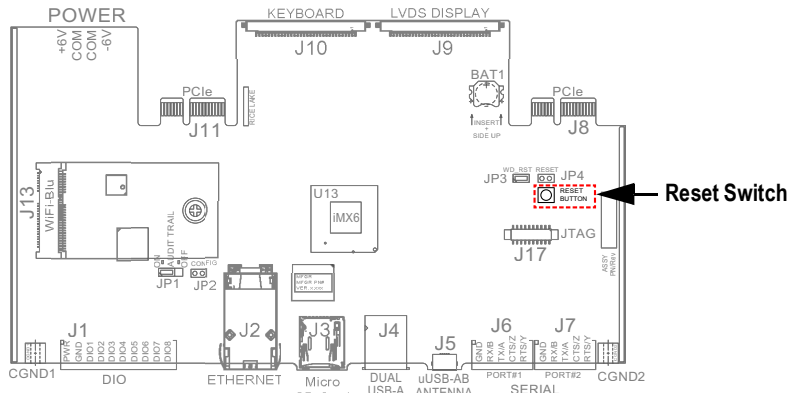
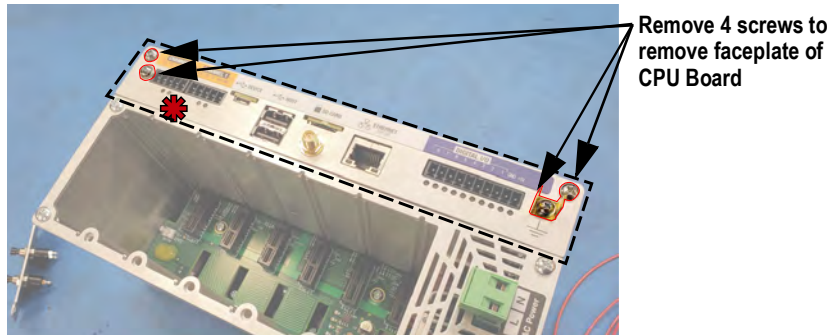
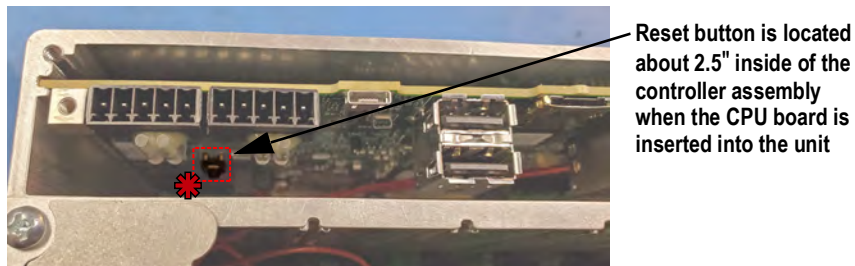

Figure 2. Location Reset Switch On CPU Board
Figure 3. Remove the Faceplate
Figure 4. Access to Reset Switch
3. Press the reset switch (Figure 4 on page 2) while the splash screen displays the fourth dot in the opening sequence.
The reset switch is located on the CPU board (Figure 2). The CPU board must be inserted into the controller assembly to receive power from the indicator. The reset switch is accessible by removing the faceplate from the CPU board (Figure 3). Reach into the controller assembly with a non-conductive tool to press the reset switch (Figure 4) while the splash screen displays the fourth dot in the opening sequence.